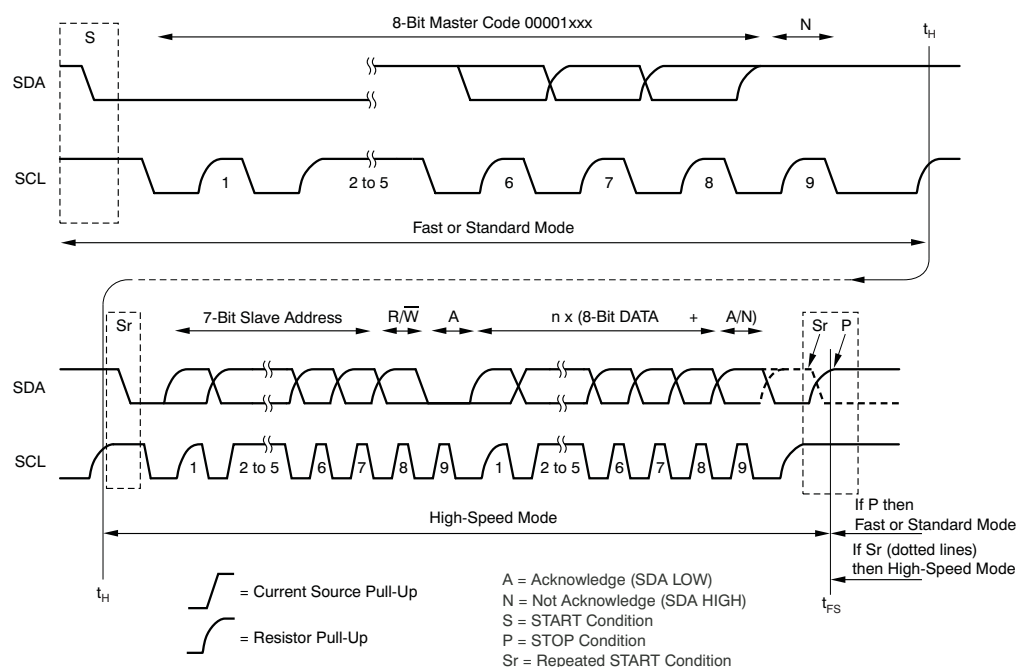

Figure 30. Complete High-Speed Mode Transfer
When the bus master sends the address byte with  $R/\overline{W}$  bit = 0, and the TSC2007 sends an acknowledge, the pen-interrupt function is disabled. If the command that follows the address byte contains PD0 = 0, then the pen-interrupt function will be enabled at the end of a conversion. This is approximately 100 $\mu$ s (12-bit mode) or 50 $\mu$ s (8-bit mode) after the TSC2007 receives a STOP/START condition, following the receipt of a command byte (see Figure 31 and Figure 30 for further details about when the conversion cycle begins).
1. START condition (S)
3. Not-acknowledge bit (N)
Figure 30 shows this sequence in more detail. Hs-mode master codes are reserved 8-bit codes used only for triggering Hs mode, and are not to be used for slave addressing or any other purpose. The master code indicates to other devices that an Hs-mode transfer is about to begin and the connected devices must meet the Hs mode specification. Because no device is allowed to acknowledge the master code, the master code is followed by a not-acknowledge bit (N).
After the not-acknowledge bit (N) and SCL have been pulled-up to a HIGH level, the master switches to Hs-mode and enables the current-source pull-up circuit for SCL (at time  $t_H$ ; shown in Figure 30). Because other devices can delay the serial transfer before  $t_H$  by stretching the LOW period of SCL, the master enables the current-source pull-up circuit when all devices have released SCL, and SCL has reached a HIGH level, thus speeding up the last part of the rise time of the SCL.